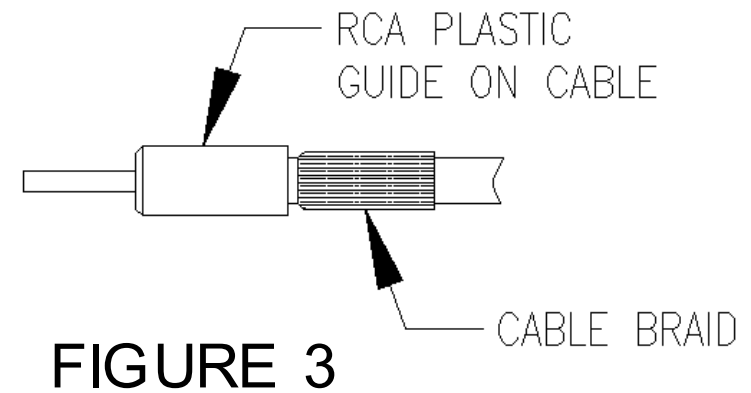

FIGURE 3
3) Insert the sleeve over the plastic guide until it covers the braid that was folded over during initial preparation as shown in figure 3.